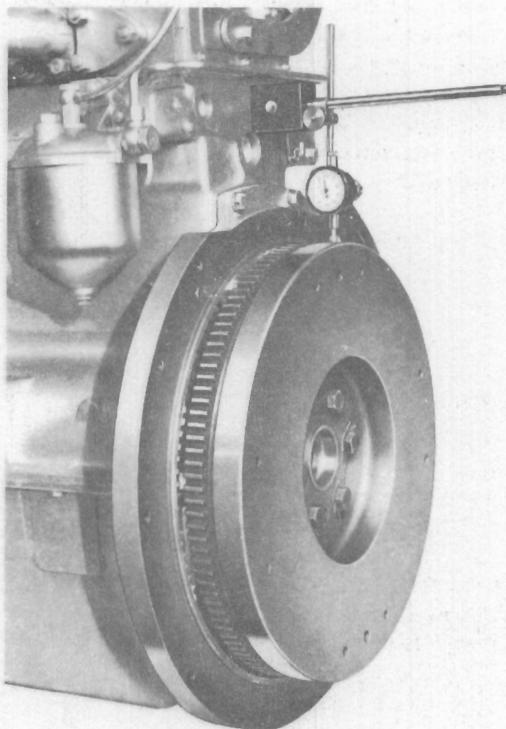

Fig. P.1.
4. It is most important that the flywheel run out be checked to ensure that it will not run out of balance, so before tightening the six setscrews, secure the base of a 'clock' gauge to the cylinder block. Then, with the flywheel at top centre, set the plunger of the 'clock' on the periphery at T.D.C. See Fig. P.1.